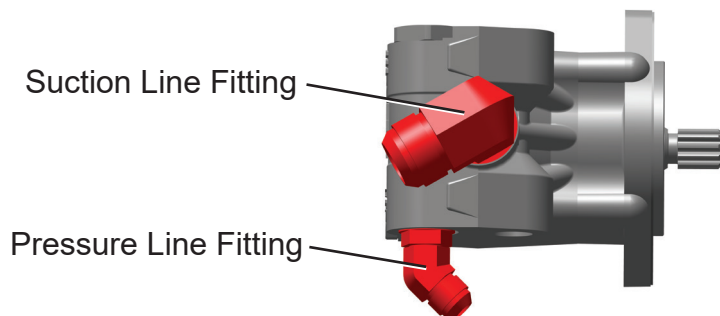

Figure 4
8. Place pump on a bench and remove suction line 90° fitting from power steering pump, see Figure 4. Save fitting for reinstallation on new pump.
9. Remove pressure line 45° fitting from power steering pump, see Figure 4. Save fitting for reinstallation on new pump.